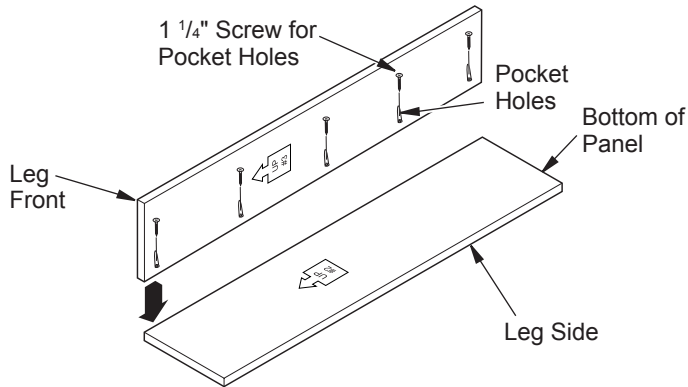

Figure 1 - Assembling Legs
2. Position second panel as shown in Figure 1, page 2. Align panels at bottom. With one person holding the panel alignment secure, attach panels using 1 1/4" screws through pocket holes. Check assembly for correct alignment.